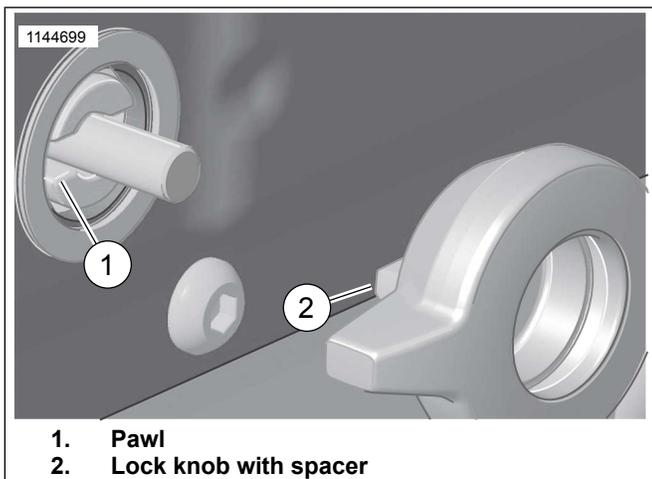

Figure 9. Install Knob Assembly
5. Refer to Figure 9. Place lock knob with spacer (2) assembly onto screw assembly. Make sure that the bosses on the spacer engage the slots on the pawl (1).